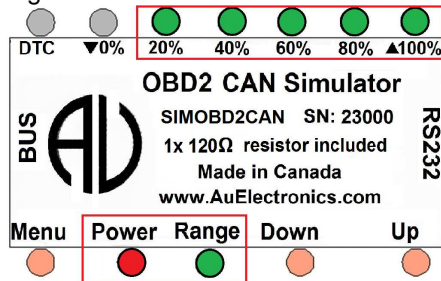

Figure 3-8
- When control step value equals 100%; 20%, 40%, 60%, and 80% LED will be constant on. ▲100% LED blinks, as shown in Figure 3-8.